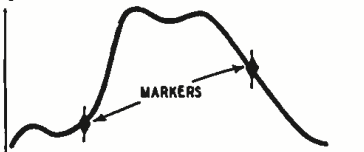

Fig. 1—i.f. trace. Sound traps not adjusted.
1. To observe the i.f. response on an oscilloscope, the generator must supply an FM signal with a 23-mc center frequency, which deviates 4 mc in each direction (total swing of at least 8 mc). While it is possible to find the i.f. response with an AM generator and a v.t.v.m. (without a sweep generator and scope), the method is so time-consuming and inaccurate that it is not recommended. The i.f.-response trace on the oscilloscope should look something like Fig. 1 (before the sound trap has been adjusted). To identify the frequencies represented in the curve, r.f. marker